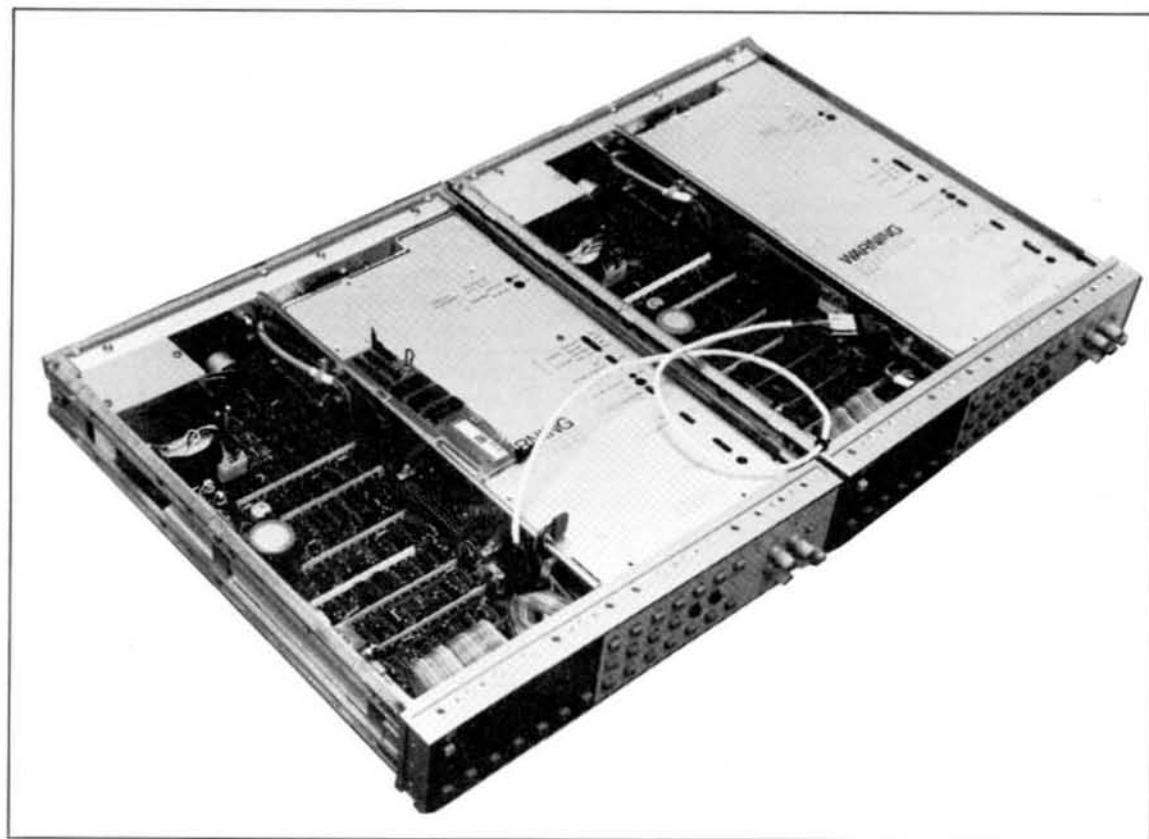

Figure 8-45. Inguard-Outguard Connections.
2. Plug the Inguard/Outguard Service Cable from one instrument's outguard connector (A1J7) to the other instrument's Inguard/Outguard cable assembly (W1). The instruments are now effectively half-split with one unit's inguard section connected to the other unit's outguard section (see Figure 8-45)
8-A-4. Assuming that the power supplies of the 3455A are good, the Instrument Half Splitting Technique (paragraph 8-176) should be the first step in isolating turn-on failures. Either the inguard or the outguard section could hang up the 3455A's turn-on sequence. The front panel indication does not tell where the fault is located. Therefore, the Half-Splitting Technique should be used to isolate the fault between inguard or outguard section of the 3455A. If an extra 3455A and an Inguard/Outguard Service Cable is not available, the method described in Figure 8-45 may be used. When it is determined which section of the 3455A is at fault, go to the appropriate troubleshooting section in this service group (see paragraph 8-198 and Table 8-3).